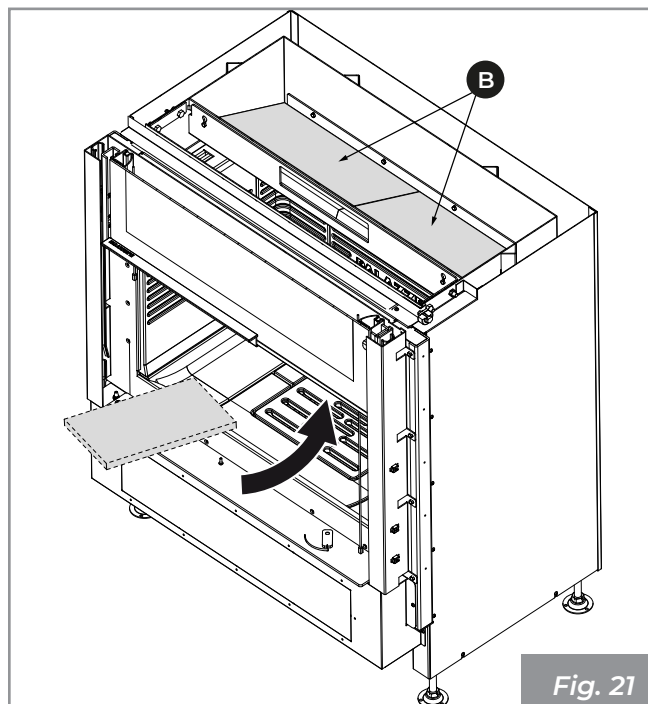

Fig. 21
6) Finally, reposition the deflectors (B) (Fig. 21).